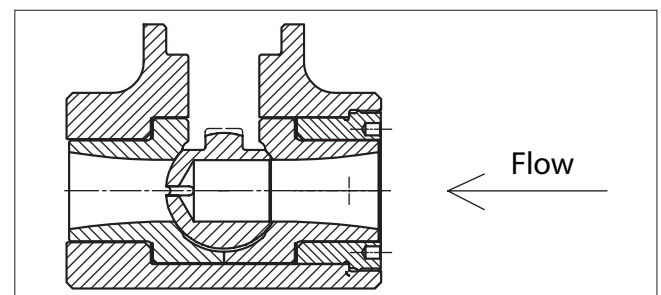

Fig. 7
1. Apply Molykote 312R lubricant to the threads of the insert (6).
4. Install the sheet rings (14) on the bushings (3).
5. Place the ball (2) between the bushings (3). Mounting a LowCv valve, when ball is open the groove must be on the valve's exhaust side. Fig. 7.
7. Install the gasket (25) on the body (1) (8"/DN 200 only).
8. Turn the insert (6) lightly into the body.
9. Push a assembly guide tool, Table 7, through the gland bore into the slot of the ball. Make sure that the tool is properly engaged with the ball. The tool will keep the bushings (3) in place during the tightening of the insert (6).